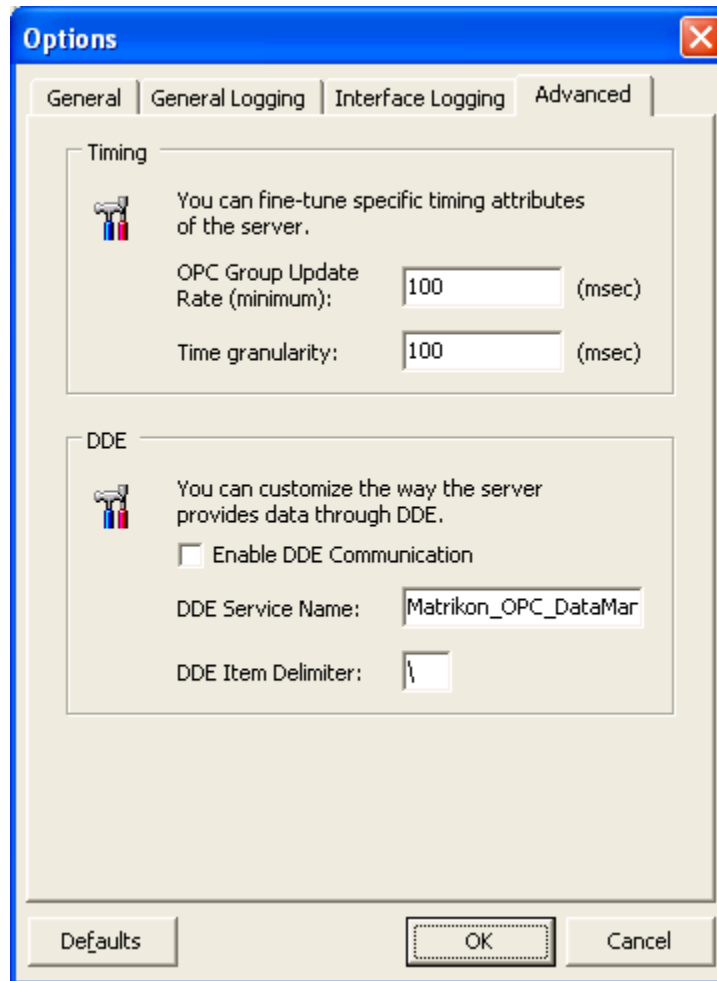

Figure 51 - Advanced Options Tab
3. From the **Options** window, select the **Advanced** tab (Figure 51).